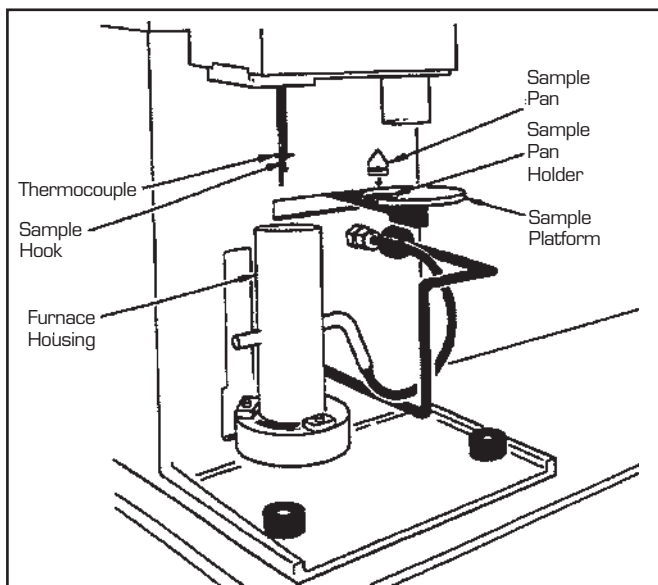

Figure 3.1
1. Place the sample in the sample pan, and position the pan on the sample platform (Figure 3.1).